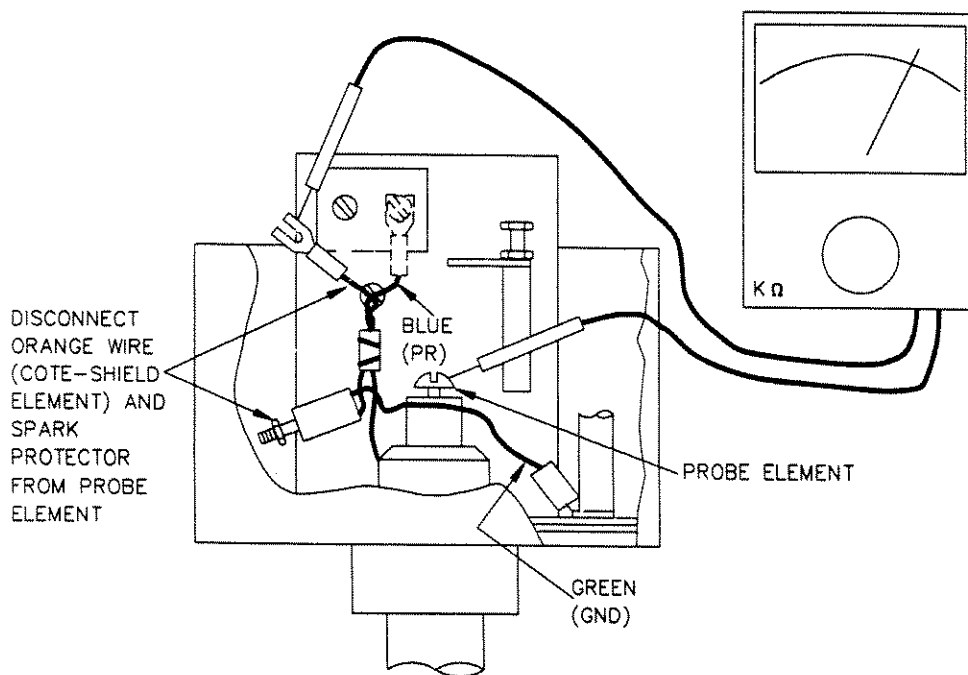

Figure 5-2
- A. See Figure 5-2. Disconnect the shield wire (orange) from the electronic unit and disconnect the spark protector from the center rod of the sensing element.